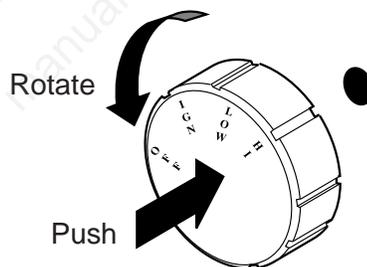

Figure 46 - HIGH Position
10. Push in control knob and turn to desired setting (LOW or HIGH). The control knob must be set at either the low or high position, and the control knob will pop out when positioned correctly. Do not set the control knob at a position between LOW and HIGH. Refer to *Figures 46 and 47*.